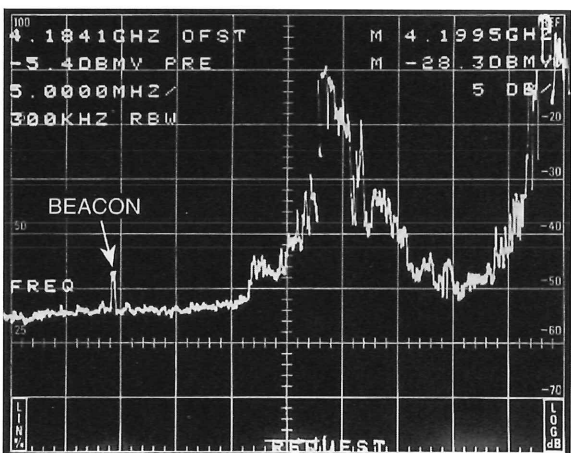

Figure 28. Satellite beacon signal.
- d. Select item 0 from the SETUP TABLE of the Demod Menu to change its status from BROADCAST to FM.
- e. Select item 3 from the Demod Menu to turn on the FM video monitor. Reselect item 3 to turn off the monitor when you are finished.
7. Each satellite also transmits one or more beacon signals. The beacon signal is present and can be used for alignment purposes even if all transponders are inactive. On Westar satellites, the beacon is at 4199 MHz and on Satcom and Comsat satellites, it occurs at 3700.5 MHz. The beacon amplitude is much lower than the transponder amplitude. A typical beacon signal is shown in Figure 28.